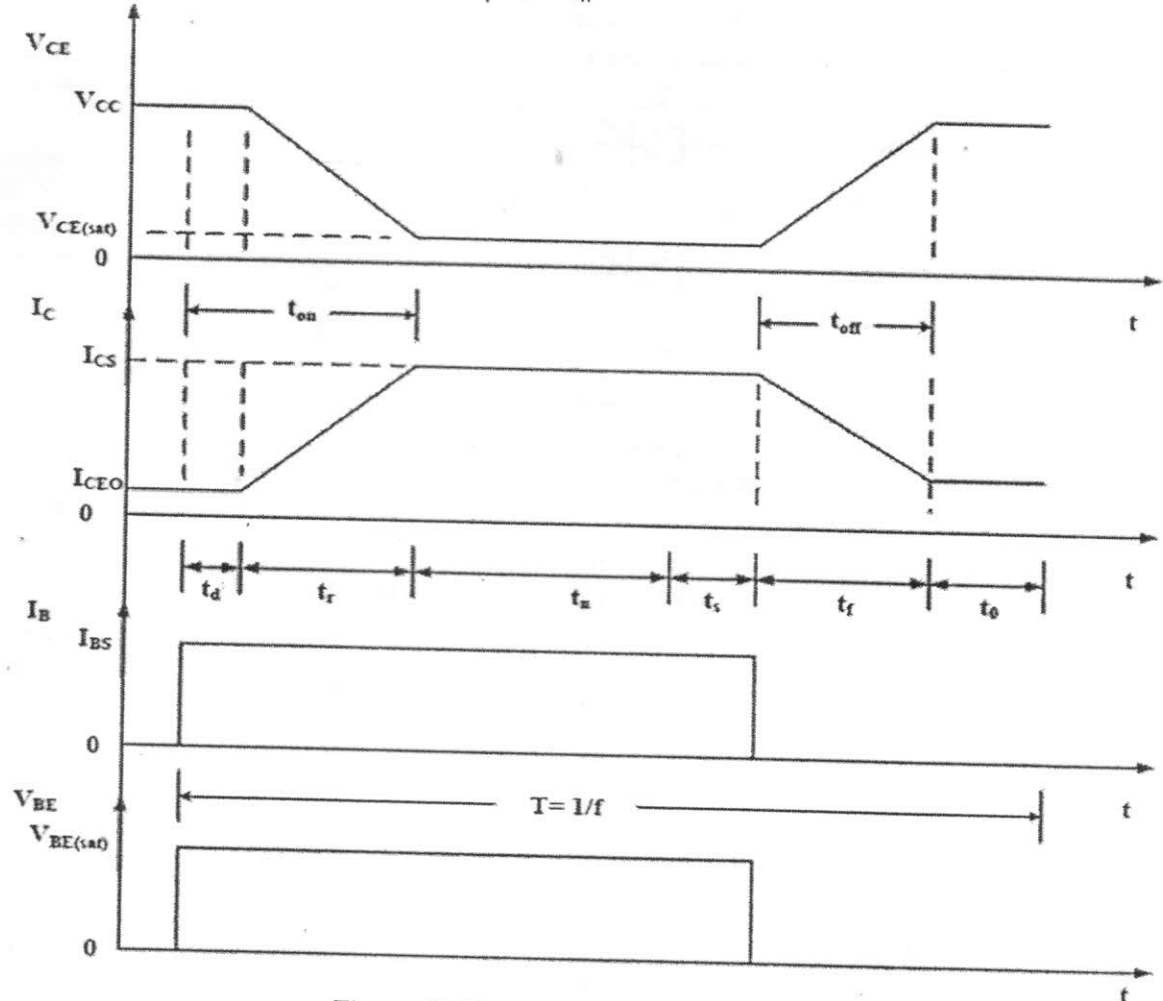

Figure Q.1.b.
- b) The waveforms of the transistor switch are as shown in Figure Q.1.b. The parameters are; $V_{CC} = 250$ V, $V_{BE(sat)} = 3$ V, $I_B = 8$ A, $V_{CE(sat)} = 2$ V, $I_{CE} = 100$ A, $t_d = 0.5$ μ s, $t_r = 1$ μ s, $t_s = 5$ μ s, $t_f = 3$ μ s, $f_s = 10$ kHz, and the collector-to-emitter leakage current is $I_{CEO} = 3$ mA. If the duty cycle is $k = 50\%$, calculate the power loss due to I_C during;